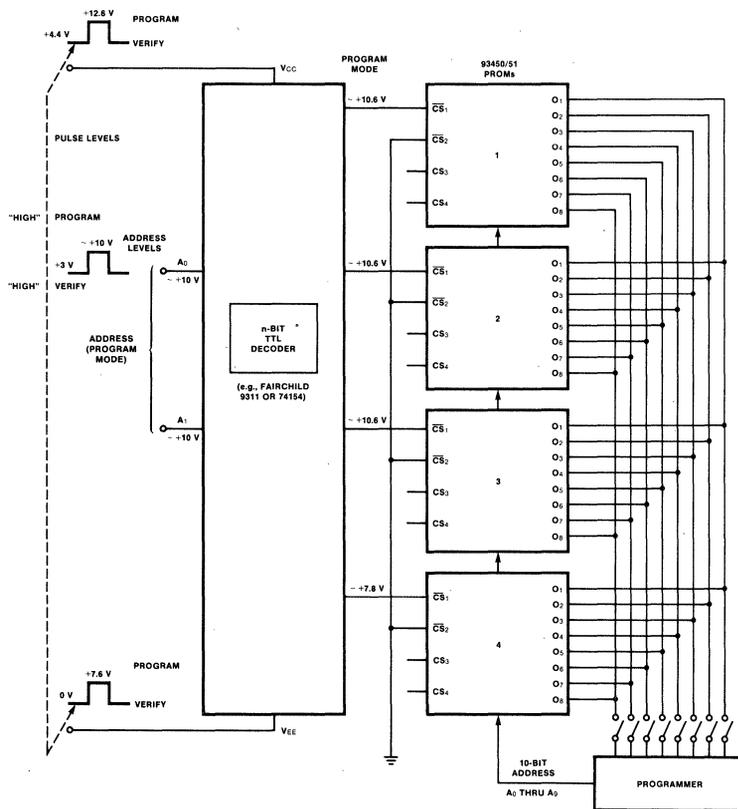

Fig. 1 Board Programming
1. Memories 1 through 4 are OR-tied and connected to the programmer as shown (Figure 1).
6. Raise the programming voltage to 20.5 V; the memory whose \overline{CS}_1 is LOW at +7.8 V (Memory 4 in Figure 1) will program, all others with \overline{CS}_1 HIGH at +10.6 V will remain deselected.